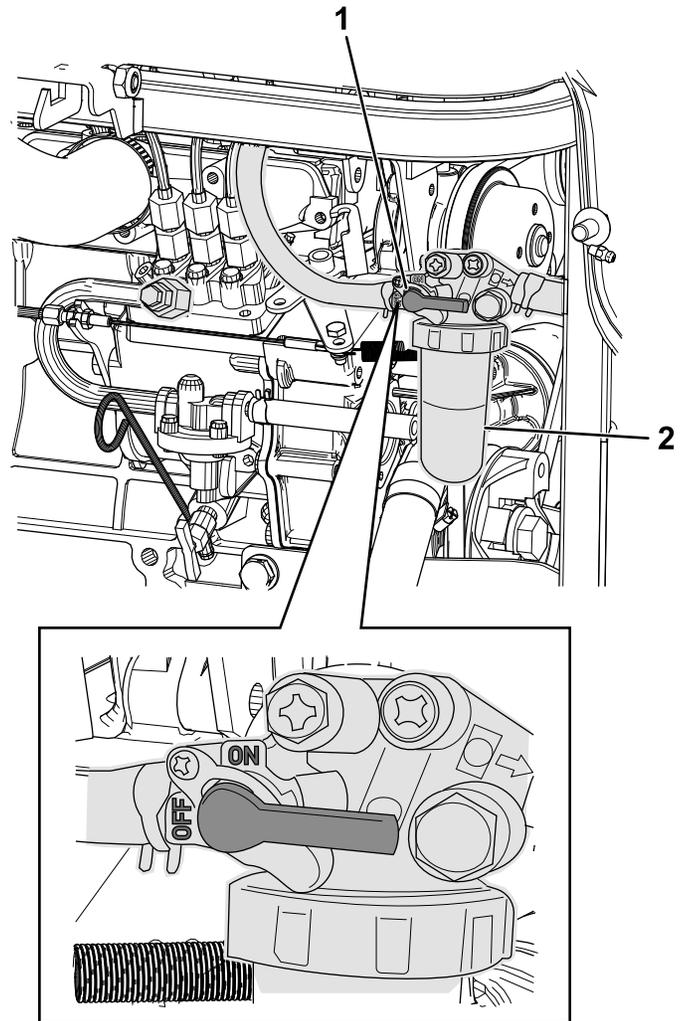

Figure 60
1. Clean the area around the fuel-filter (Figure 60).
2. Rotate the fuel filter lever to the OFF position (Figure 60).
3. Remove the filter and clean the filter-mounting surface (Figure 60).